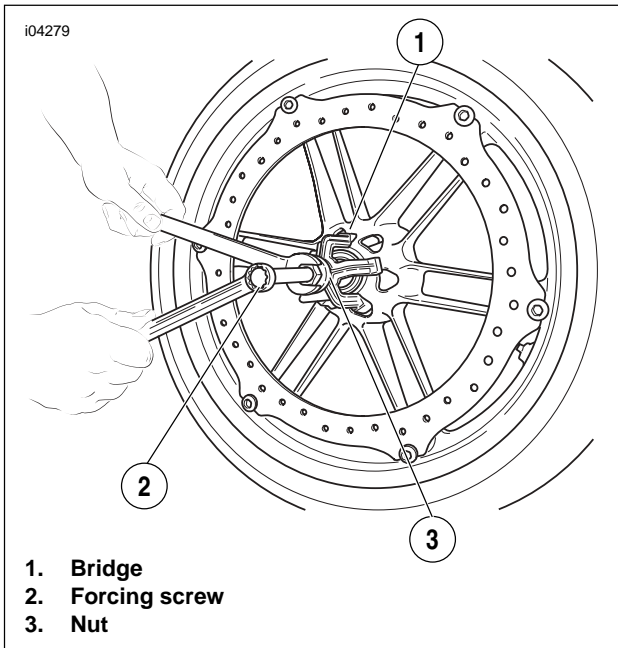

Figure 2-10. Remove the Bearing
8. See Figure 2-10. Place the bridge (1) against the wheel hub.
9. Hold the forcing screw (2), and turn the nut (3) clockwise until the bearing is free of the hub.
10. See Figure 2-10. Loosen the nut (1), and back off the bridge (2). Hold the forcing screw (3) while holding the collet (4) to remove the forcing screw from the collet.